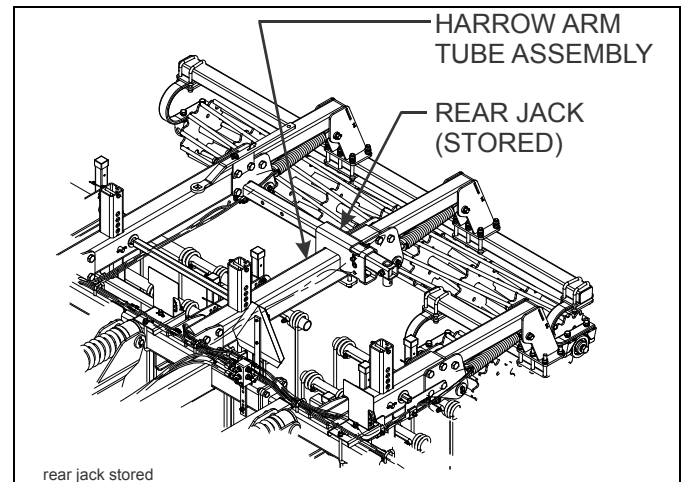

Figure 3-17: Rear Jack Location
1. The rear jack assembly should be located on the harrow arm tube assembly (See **Figure 3-17.**)